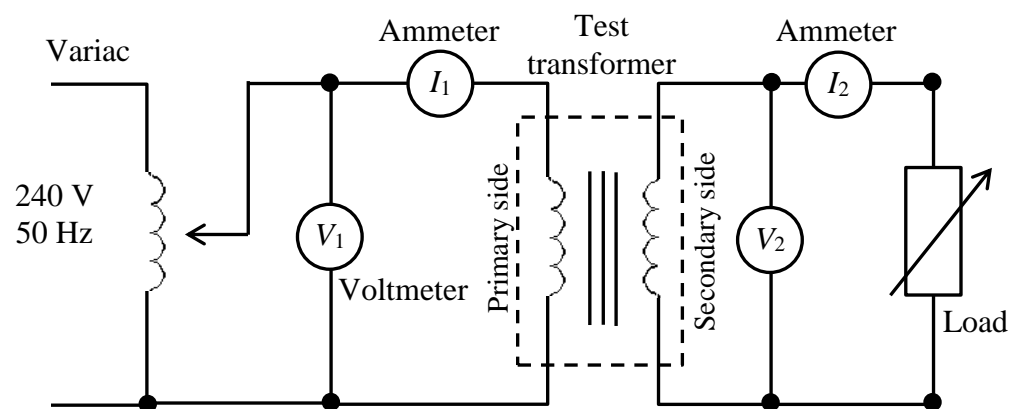

Fig. 5: Load Test
- Connect the circuit as shown in Fig. 5. For the load, use a purely resistive load.